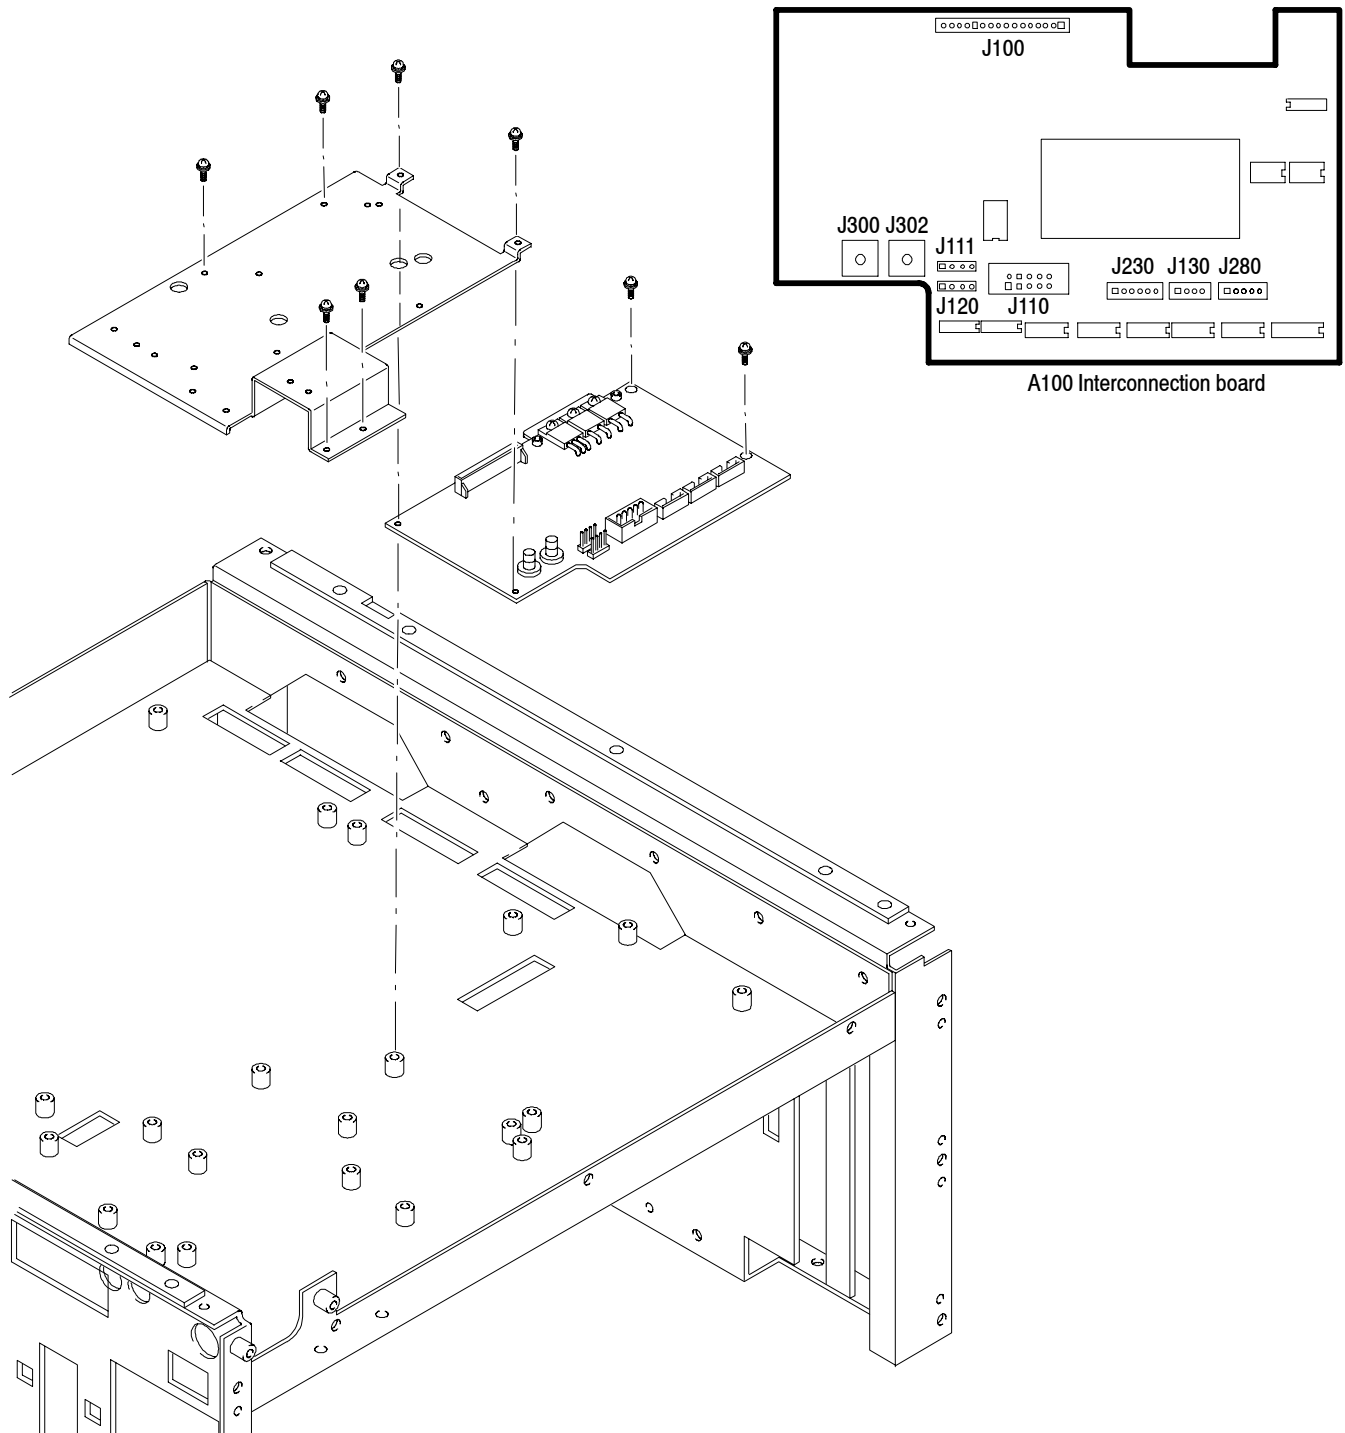

Figure 6-23: RF1 modules removal - 1
3. *Remove the A100 Interconnection board:* See Figure 6-23. Also see Figure 6-36 (RSA2203A) or 6-37 (RSA2208A) for cable interconnection.